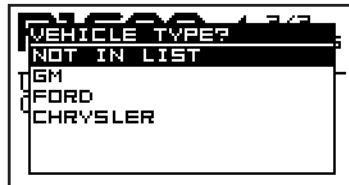

Fig.11
2. Arrow down through the list and select the appropriate vehicle type. Selecting a vehicle type that does not match the connected vehicle results in the tool displaying incorrect text. If the connected vehicle name is not listed, select NOT IN LIST (Fig.11).